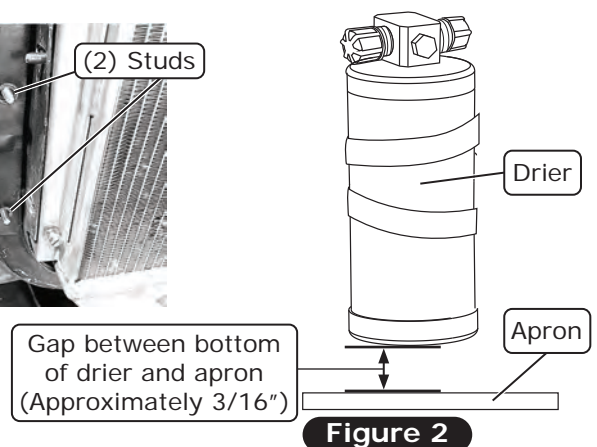

Figure 2
3. Adjust the drier in the clamp so that it does not sit on the bottom of the apron. Leave a gap between the bottom of the drier and the apron (approximately 3/16"), then tighten the nut on the drier clamp just enough to keep the drier in place (See Figure 2, below). **NOTE: Do not fully tighten the drier nut at this time. Final adjustment of the drier is done after the #6 condenser/drier hardline is installed.**